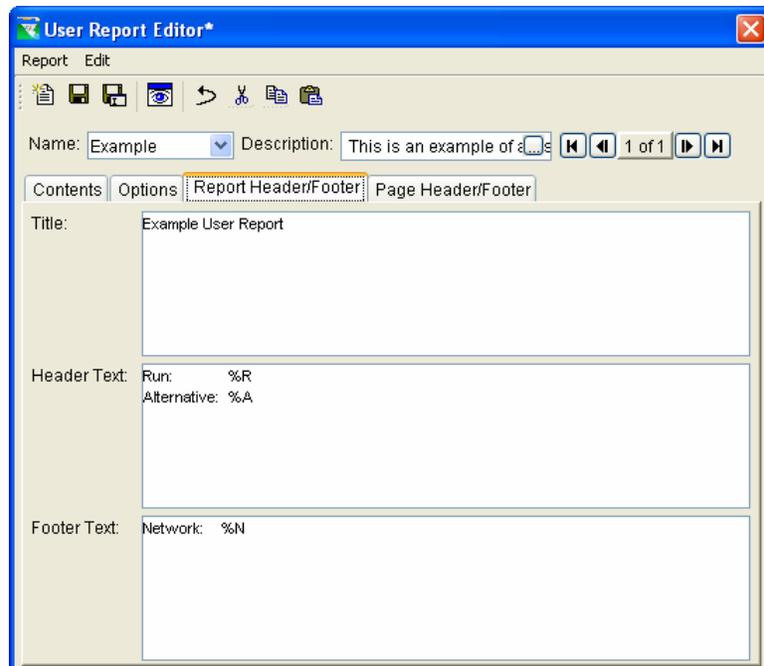

Figure 14.46 User Report Editor – Report Header/Footer Tab
6. Select the **Report Header/Footer** tab in the **User Report Editor** in order to give your report a title, header, and footer, if desired (Figure 14.46).
The **Title** and **Header Text** will appear at the beginning of the report, while the **Footer Text** will appear at the end. Notice the character string codes (%) entered in Figure 14.46. These **codes** refer to run name (%**R**), alternative name (%**A**), and network name (%**N**), respectively.